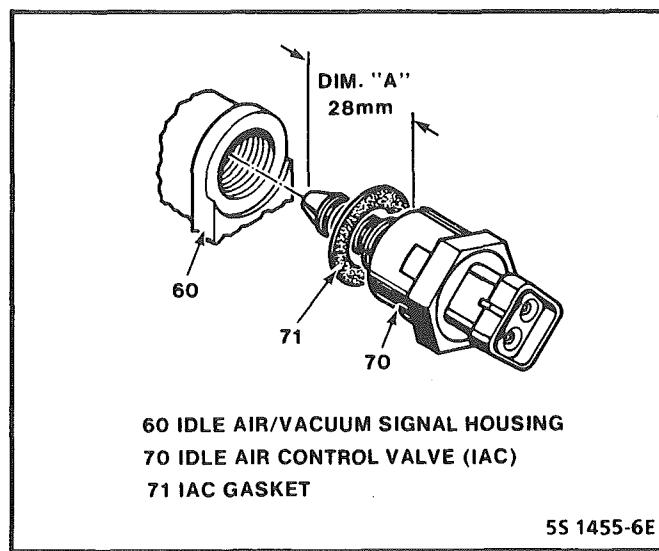

Figure C2-19 Idle Air Control Valve Assembly
IDLE AIR CONTROL VALVE ASSEMBLY AND GASKET (Figure C2-19)
- Distance from gasket mounting surface of IAC valve assembly (70) to tip of pintle, Dimension "A" in Figure C2-19.